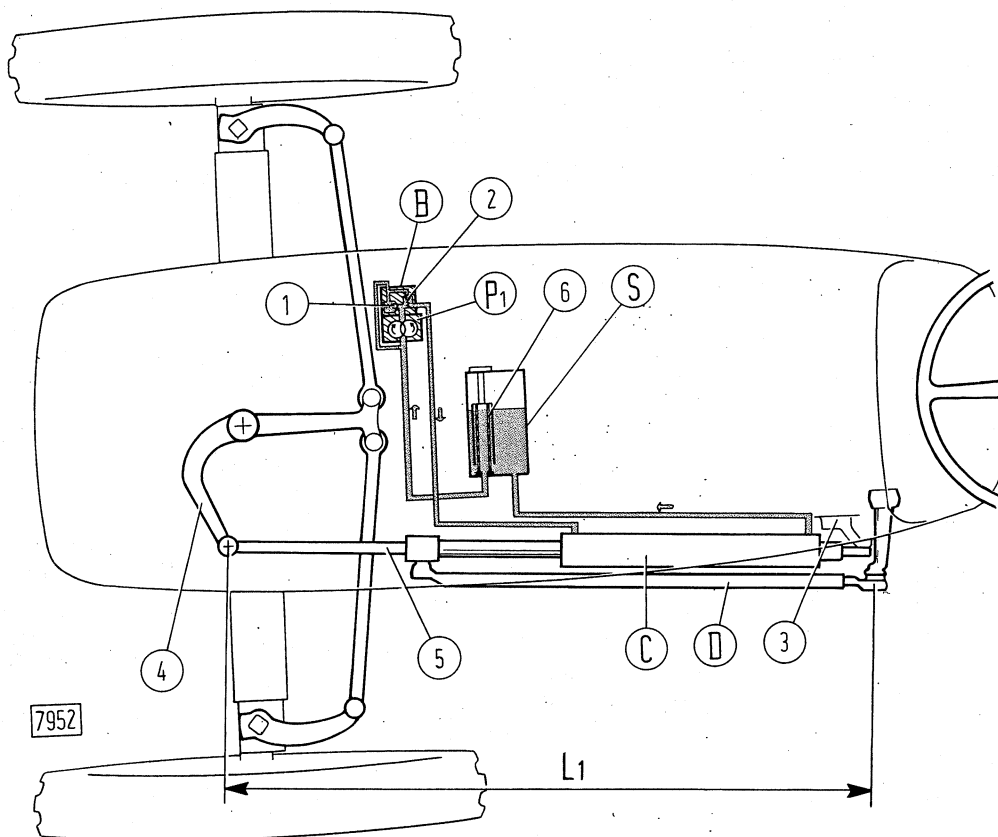

Fig. 9 - Power steering hydraulic diagram.
The power steering system comprises the following main parts (Fig.9) :
Install the power cylinder (C, Fig.9) complete with end (5) and draglink (D) and adjust the total length (L₁) at 1165 mm (45.866 in) acting on threaded end (5).